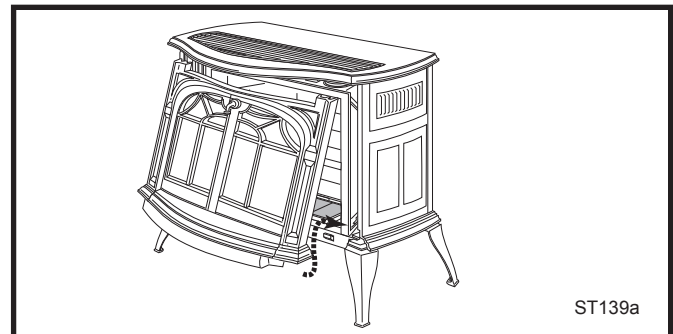

Fig. 25 Replace the front panel.
- Replace the stove front by grasping it by the left and right edges. Lift it so that tabs on the back side of the top corners engage notches at the top forward corners of the stove sides. Then gently swing the bottom of the front panel to a vertical position, and lower it till prongs on its bottom left and right corners engage with notches cast into the tops of the forward legs. (Fig. 25) Test that the front is installed securely by grasping two of panel's vertical bars, and pulling the panel toward yourself. When the panel is in place properly you should not be able to pull the bottom of the front toward yourself without also lifting it.